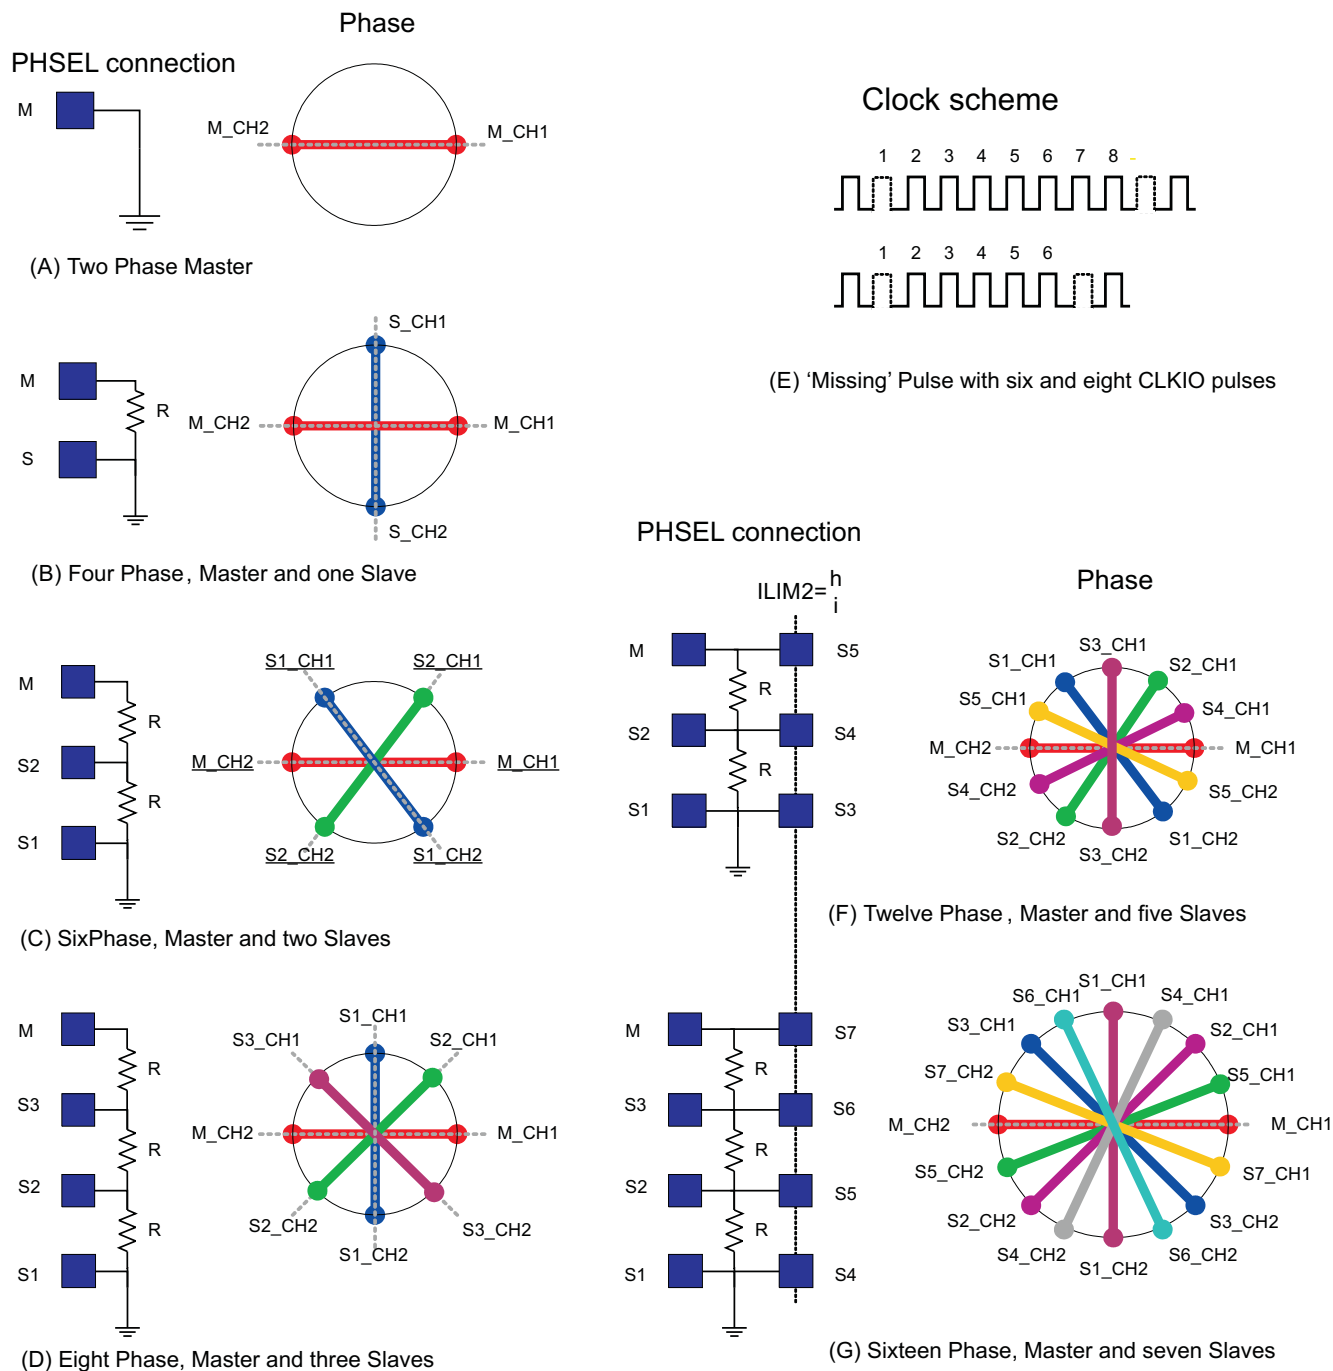

Figure 5-20. Clock Phasing Summary
If four slaves are desired, just delete one of the slaves from Figure 5-18. The interleaving is not perfect because there is be 30° between the master and three slaves. The deleted slave causes 60° between the two adjacent slaves. See Figure 5-20 for phasing details.
In this configuration, the master senses that there are three slave controllers (due to the three resistors) and distributes an eight-phase CLKIO signal. Slave1, slave2 and slave3 are turned on at 45° and 90° respectively as before with three slaves. However, to get sixteen phases with an eight-phase clock, both edges of the CLKIO signal are used to control the slaves. With the ILIM2 tied high on slave4, slave5, slave6, and slave7 they turn on at the rising edge of CLKIO, while the master and slave1, slave2, and slave3 turn on at the falling edge of CLKIO. If six slaves are desired, just delete one of the slaves from Figure 5-19. The interleaving is not perfect because there is 22.5° between the master and three slaves. The deleted slave causes 45° between the two adjacent slaves. See Figure 5-20 for a phasing details.
Figure 5-20 is a summary of the master and slave clock phasing. The master and the slaves can be selected to be a multi-phase, single output configuration and/or several independent output voltage rails, independent of the clocking.
The solid square boxes in Figure 5-20 represent the PHSEL pin of the master (M) controller or a numbered slave controller (S1-S7). The labels on the spokes of the wheels indicate a master Channel 1 and master Channel 2 (M\_CH1 and M\_CH2) and numbered slaves Channel 1 and slave Channel 2 (Sn\_CH1 and Sn\_CH2). The Channel 1 and Channel 2 of a given master or slave is always 180° out of phase.
The 3-phase system could also be configured with 1 channel of the master and 2 channels of the slave. Referring to part (B) above, the 3 phases could be master CH1 or master CH2 and slave CH1 and slave CH2. In either of these configurations there is 90° between two of the channels and 180° between the other channel. The unused channel could be another independent output voltage whose clocking would occupy the phase not used in the 3-phase system. This philosophy can be used for any number of phases not shown in Figure 5-20, Clock Phasing Summary.